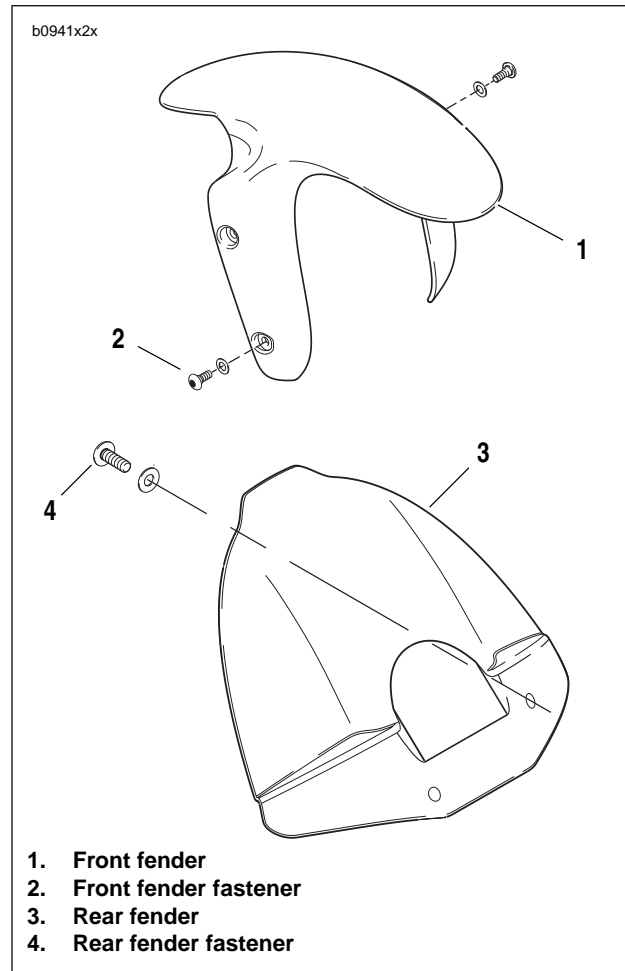

Figure 2-105. Front and Rear Fender
1. See Figure 2-105. Remove fasteners and washers (2) securing the front fender (1) to front forks.
2. Carefully remove front fender (1).
1. See Figure 2-105. Align front fender (1) to fender mounts on front forks.
2. Install front fender (1) with fasteners and washers (2) and tighten to 12-36 **in-lbs** (1-4 Nm).
2. See Figure 2-105. Remove fasteners and washers (4) securing the rear fender (3) to frame.
3. Remove rear fender (3).
1. See Figure 2-105. Align rear fender (3) to frame.
2. Install rear fender (3) with fasteners and washers (4). Tighten to 12-15 **in-lbs** (1-1.7 Nm).